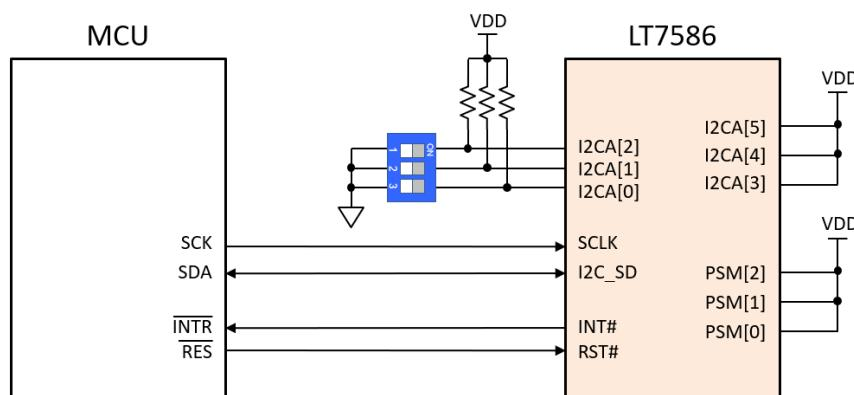

Figure 5-14: I²C Host Interface (Support continuous read mode)
- Continuous Read Mode: PSM = 111b, as shown in Figure 5-14. When nACK (ACK = 1) is received, the Host stops reading. In other words, when ACK is received (ACK = 0), the Host can read the next data.